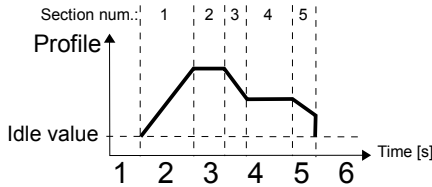

Fig. 7.107. Sample of Profile/timer
- **level (gate)** – this means that the Profile configured by the user when the source signal has the value > 0 , otherwise (if source value ≤ 0) the defined Profile will not be generated. See Fig. 7.107 and example a) in Fig. 7.108,
- **edge (once)** – this means that the Profile configured by the user will be triggered by the rising edge (from values ≤ 0 to the value > 0) of the source signal. After the rising edge the Profile will be generated in whole (once), regardless of further changes to the signal source, see Fig. 7.107 and example b) in Fig. 7.108,
- **edge (re-triggering)** – this means that the Profile configured by the user will be triggered by the rising edge (from values ≤ 0 to the value > 0) of the source signal. However, in this mode, unlike the edge (once) mode the defined Profile will be generated from the beginning every time the Triggering source signal generates an edge, whether that Profile had been completed or not. See Fig. 7.107 and example c) in Fig. 7.108,
Fig. 7.108. Samples of **Profile** output waveforms defined in Fig. 7.107, triggered by signal selected in **Triggering source** parameter for **Triggering mode: level (gate), edge (once), edge (retrig.)**